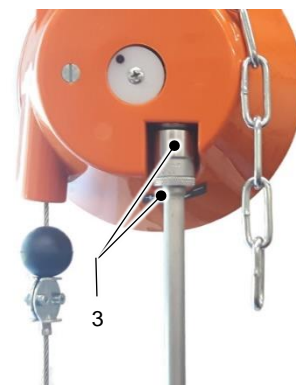

Fig. 5.3 – Setting of the spring balancer
Mount the oil mist lubricator (1) in the following sequence, see Fig. 5.3:
- Water separator (2),
- Set pressure gauge (3) to 6 – 8 bar,
- Oil mist unit (4),
- Air hose (5),
- Connection of the breastbone cutter (6).